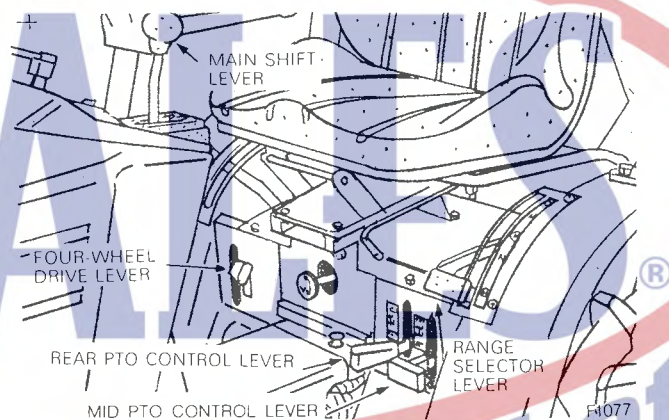

Figure 10 — Transmission and PTO Controls
The transmission main shift lever and range selector lever are shown in Figure 10. A diagram showing the shift pattern is on the left side of instrument panel.
The shift lever for the four-wheel drive is located on the right-hand and below the seat, Figure 10. Full upward, the lever disengages the four-wheel drive (OFF). Full downward, it engages the four-wheel drive (ON).